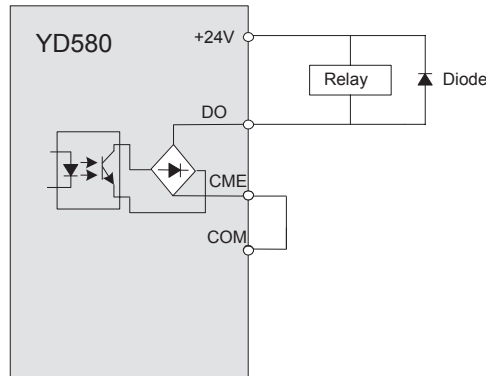

Figure 3-67 Wiring diagram of the digital output terminal
- Be sure to install the polarity of the absorber diode correctly. As shown in Figure 3-67. Otherwise, when the digital output terminal has an output, it will be turned immediately. The DC 24V power supply burns out.